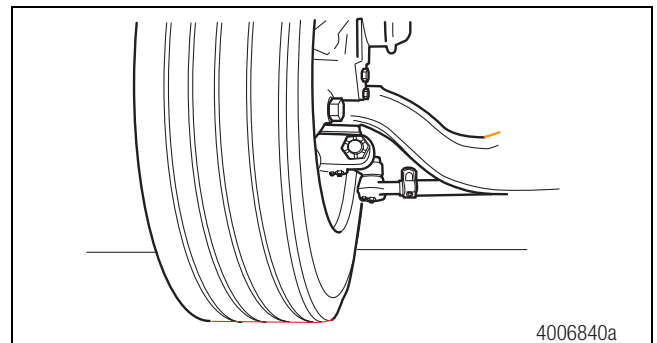

Figure 6.29
2. Verify that the tires touch the ground. Do not raise the vehicle. The full weight of the vehicle must be on the axle assembly. Figure 6.29.